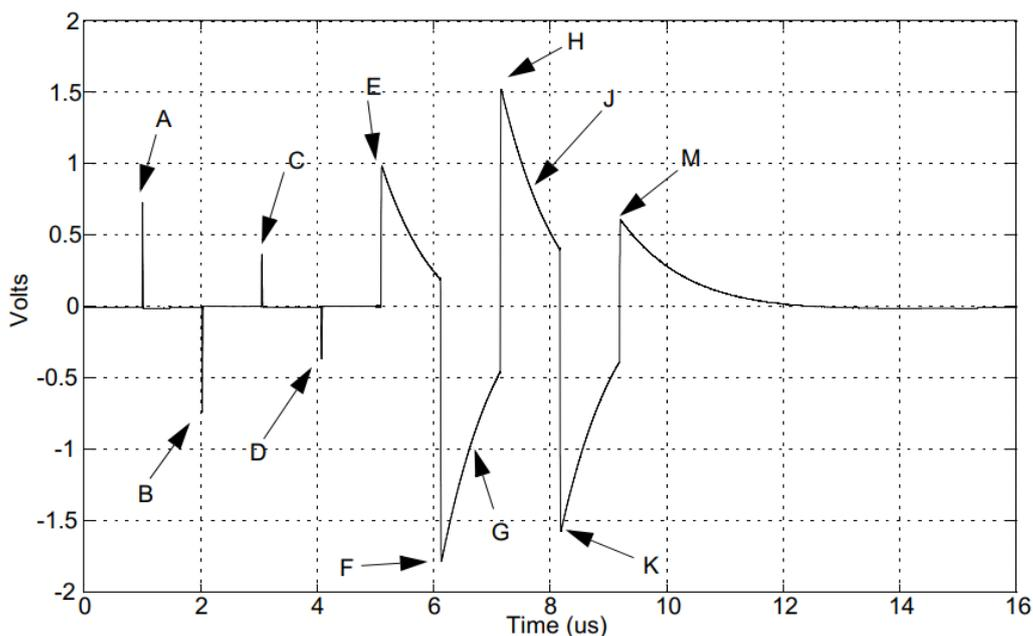

Figure 6-1 Example of transmitter test mode 1 waveform (1 cycle)
When the DUT is in test mode 1, with or without disturbing signals, Peak Output Voltage is used to verify whether the signal level from the DUT output port is within the specified range in IEEE802.3-2018, Subclause 40.6.1.2.1. These tests measure the output voltage of points A, B, C, and D of the Test Mode 1 signal at the MDI. The waveform for test mode 1 is shown in Figure 6-1, and this test waveform is also used for Droop and Templates tests.
When the DUT is in test mode 1, with or without disturbing signals, droop tests are used to verify whether the output droop of differential signal from the DUT MDI port is within the specified range in IEEE802.3-2018, Subclause 40.6.1.2.2. Voltage is measured at points F and G, and at points H and J of the Test Mode 1 signal, as indicated in Figure 6-1. The amplitude of the peak voltage at points G and J shall be greater than 73.1% of the amplitude of the peak voltage at points F and H respectively. Point G is defined as the point exactly 500ns after point F. Point J is defined as the point exactly 500ns after Point H. This test does not use a high-pass filter.
1. Measure the minimum/ maximum peak voltage at point F and H as shown in Figure 6-1 respectively and define this as V_{peak_F} or V_{peak_H} after capturing the waveform.
2. Measure the voltage at exactly 500ns after point F or point H as shown in Figure 6-1 respectively and define this as V_G or V_J .